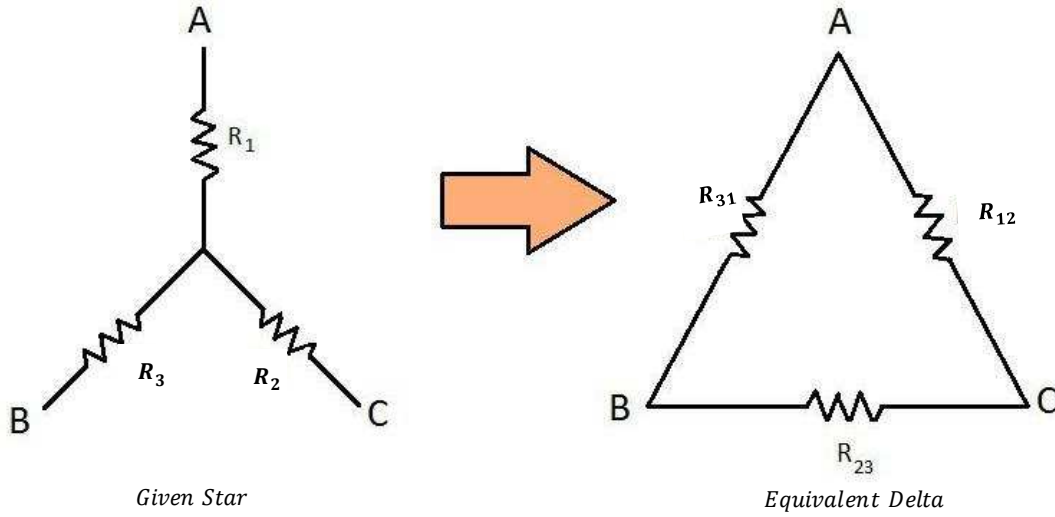

fig 2 Star to Delta Transforma
Step 1 : Remove  $R_L$  from the circuit terminals A and B and redraw the circuit as shown in figure 2. Obviously, the terminal have become open circuited.
[Fig 2: Circuit with  $R_L$  removed.]